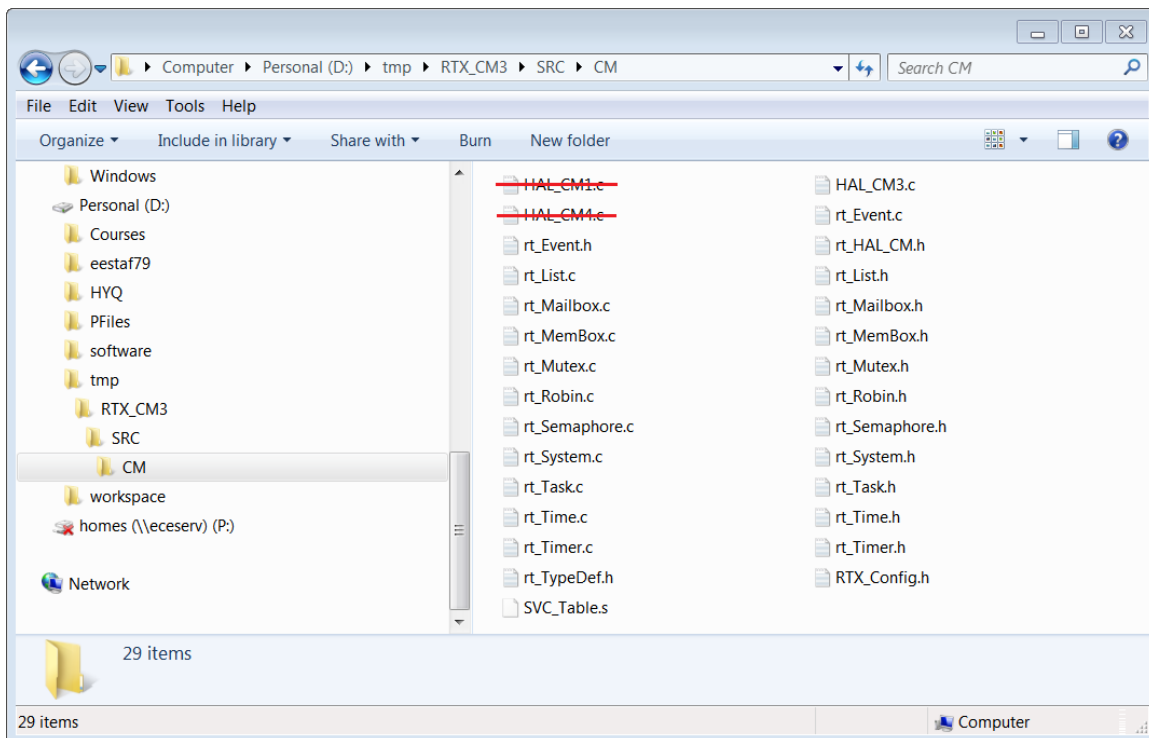

Figure 1.16: RTX Library Source Files for Cortex-M3
3. Start working on your own copy of the RTX library from now on. Remove HAL_CM1.c and HAL_CM4.c files that are under RTX_CM3\SRC\CM directory (see figure 1.16). These two files are for Cortex-M1 and Cortex-M4 processors which is not the hardware in the lab.